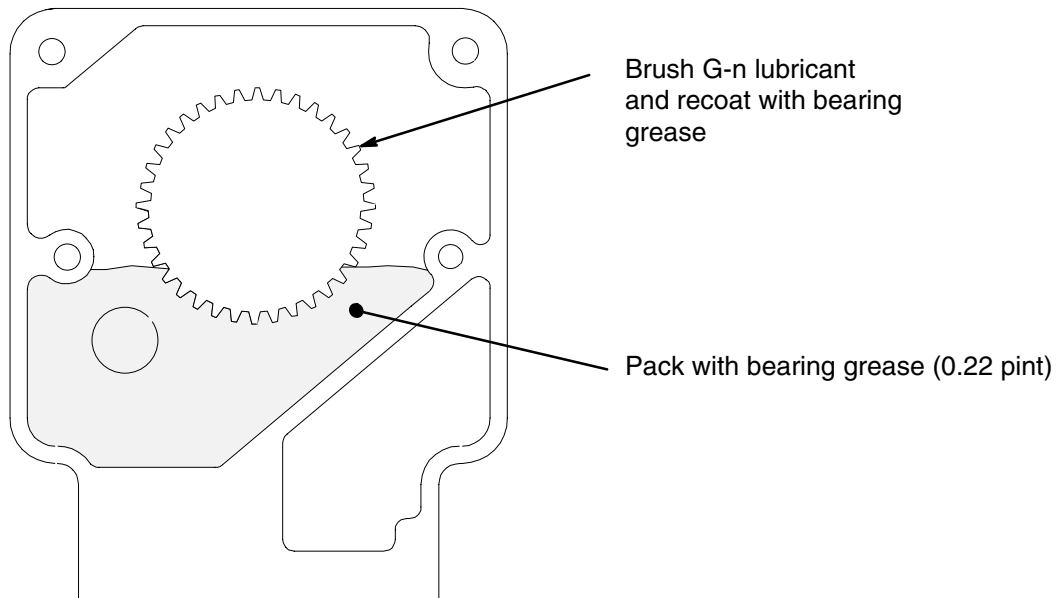

Fig. 9
9. Place the large washer (5) and then the small washer (3) on the crankshaft (8).
10. Insert the crankshaft into the bearing in the drive housing (6) and connecting rod (10).
11. If replacing the complete drive housing assembly (6), brush G-n lubricant (supplied) on all gear teeth. Then recoat the gear teeth with bearing grease (supplied). Pack the remaining bearing grease into the bottom part of the drive housing. Use 0.22 pint of the grease. See Fig. 9.
12. Install gear (19).
13. Install new gasket (64).